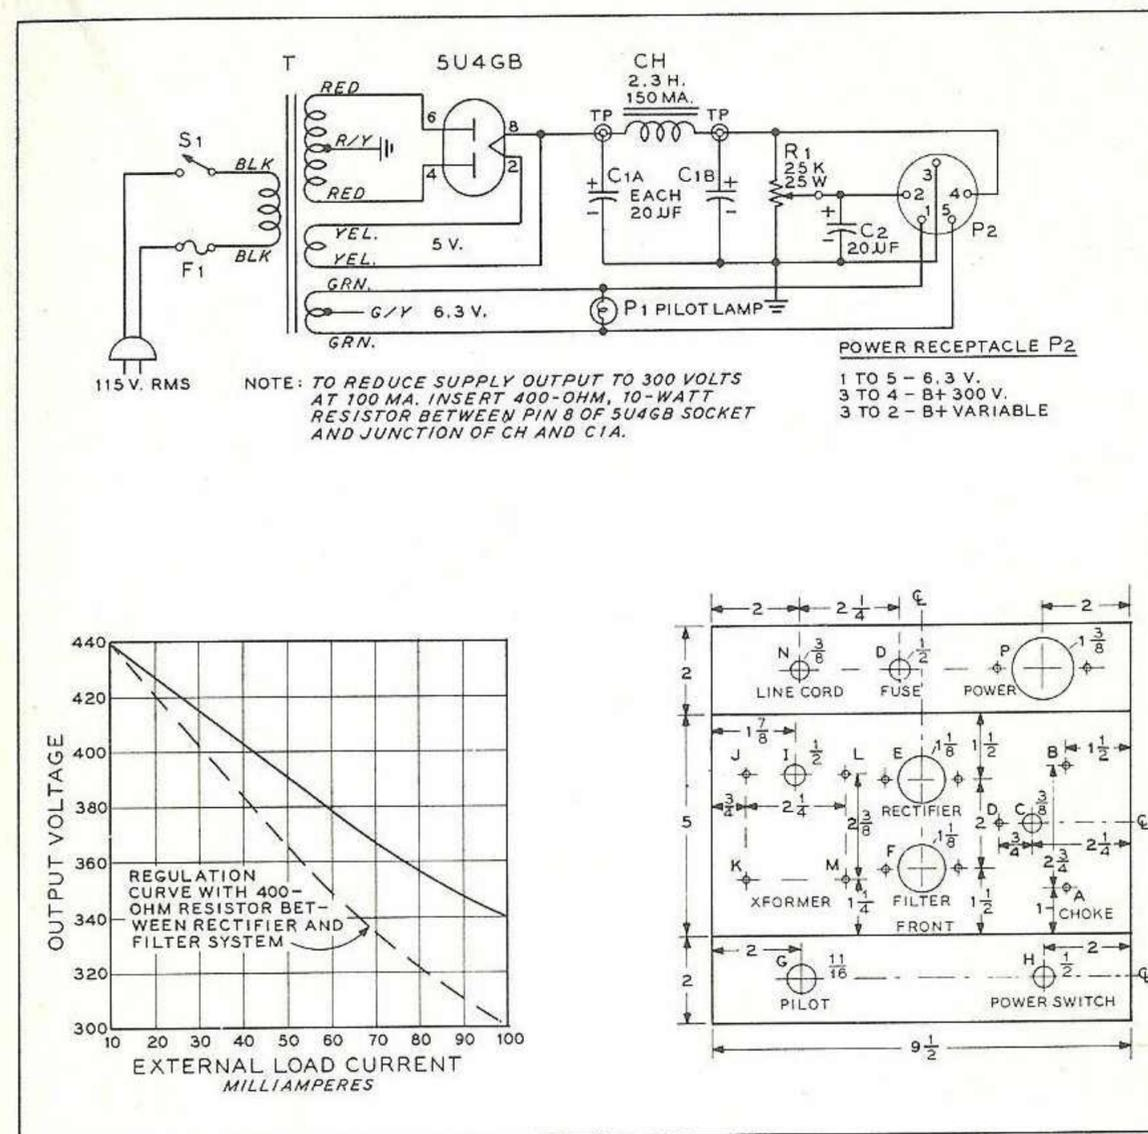

Fig. 8 Schematic, regulation curve, and chassis layout of 300 volt supply.
The circuit for the supply is a standard full wave rectifier, combined with a capacitor input filter, as shown in Figure 8. A variable voltage divider is incorporated in this supply, allowing the user to obtain any intermediate voltage between zero and 350 volts. The variable voltage may be adjusted by turning off the supply, shorting the filter capacitors and adjusting the slider on R1.
- ( ) Mark all the holes to be drilled in the chassis on the paper wrapper of the chassis, as shown in Figure 8. Drill the chassis, then remove the paper. It is a good idea whenever you are working on an aluminum chassis to spray the outside of the chassis with a coat of clear plastic, such as Krylon. An unsprayed chassis is very susceptible to the oil on hands and fingers. As a result, such an untreated chassis will become very smudged, and tend to look like the "wanted" file at an FBI office!
- ( ) Mount switch (S1) in hole H. Mount pilot light holder (P1) in hole G. Install fuse holder (F1) in hole (O).
- ( ) Mount the rectifier tube socket (X1) in hole E, using 6-32 screws, nuts, and lockwashers. Mount the filter capacitor (C1) in hole (F) by the metal mounting plate, using 6-32 screws, nuts, and lockwashers.
- ( ) Install a two terminal phenolic strip in hole (D). Insert a  $\frac{1}{4}$ " grommet in hole (C). Insert a  $\frac{3}{8}$ " grommet in hole (N).
- ( ) Pass the insulated leads of power transformer (T) through the hole (I), and mount the transformer in place, using 6-32 screws, washers, lockwashers and nuts in holes (J), (K), (L), and (M). Place the lockwashers under the screw heads to keep them from slipping through the transformer mounting holes.
- ( ) Mount resistor (R1) under the chassis, using transformer bolts in holes (J) and (K). Place lockwashers and nuts atop the mounting brackets of (R1).
- ( ) Mount filter choke (CH) atop the chassis, using 6-32 screws, lockwashers and nuts in holes (A) and (B). Push the choke leads through grommet (C) to the under-chassis area.
- ( ) Mount power receptacle (P2) in chassis hole (P) using 6-32 hardware.
- ( ) Connect one of the black leads of transformer (T) to one terminal of switch (S1). Connect the other black lead to one terminal of fuse holder (F1).
- ( ) Connect one of the yellow leads of transformer (T) to pin 2 of the rectifier tube socket (X1). Connect the other yellow lead of (T) to pin 8 of socket (X1).
- ( ) Connect one of the red leads of transformer (T) to pin 4 of the rectifier tube socket (X1). Connect the other red lead of (T) to pin 6 of socket (X1).
This completes the wiring of the medium voltage supply. Check all connections against the schematic of Figure 8. Examine all soldered joints for shorts to chassis and rosin joints. Insert a fuse in the holder and a pilot lamp in the lamp holder. Plug the line cord into a 115-volt, 50-60 cycle outlet, and turn on the power supply. The pilot light should light instantly, and the fuse should not blow out. The filament of the 5Y3 tube should slowly light. Examine the long vertical plates of the tube. They should show no color. If they glow cherry red, turn off the supply and check for shorts to ground in the high voltage circuit.